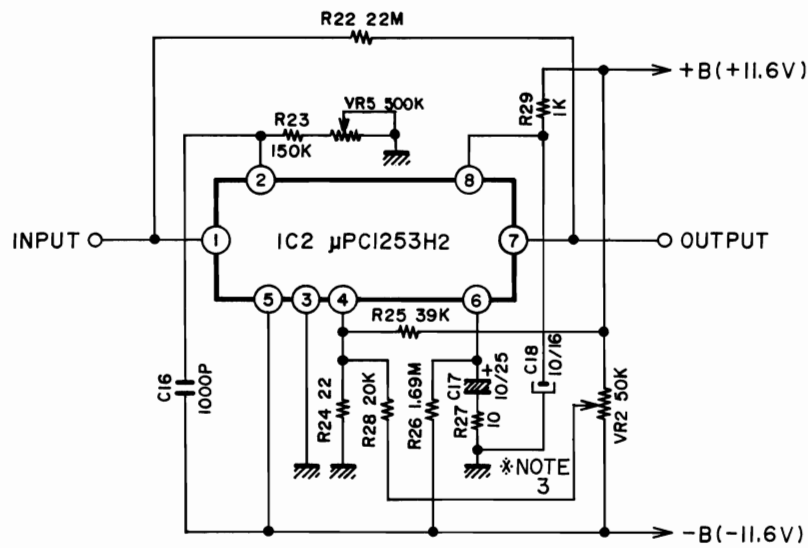

Fig. 6-21 RMS Level Sensor Circuit
(Figs. 6-21 and 6-22)
Fig. 6-21 shows the RMS level sensor circuit. For pre-setting the control signal (0V at zero point level) for the input level, zero point level control is made possible by varying the operating current of IC by means of VR5. (Zero point level=410 mV=-5.5 dB ref 1mW 600 ohms (0.774 volts))